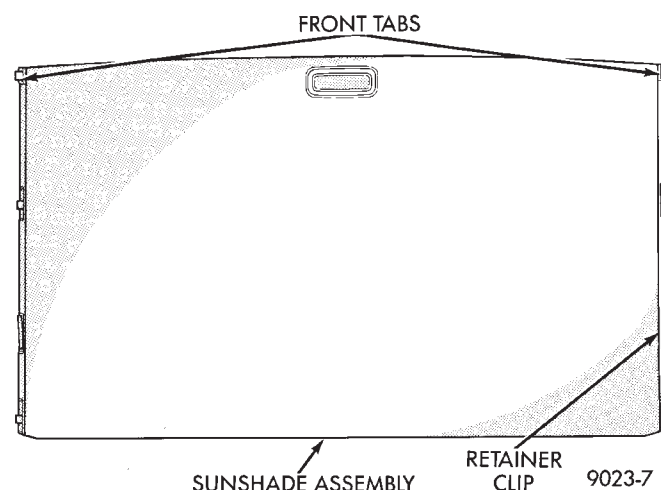

Fig. 7 Sunshade Assembly
(1) Remove wind deflector, mechanism covers and glass panel.
(2) Position system to full rearward position.
(3) Slide sunshade panel full forward and release the front tabs from track assembly.
(4) Pull rear retaining clip inboard and lift sunshade out Fig. 7.
(5) For installation reverse preceding operation.